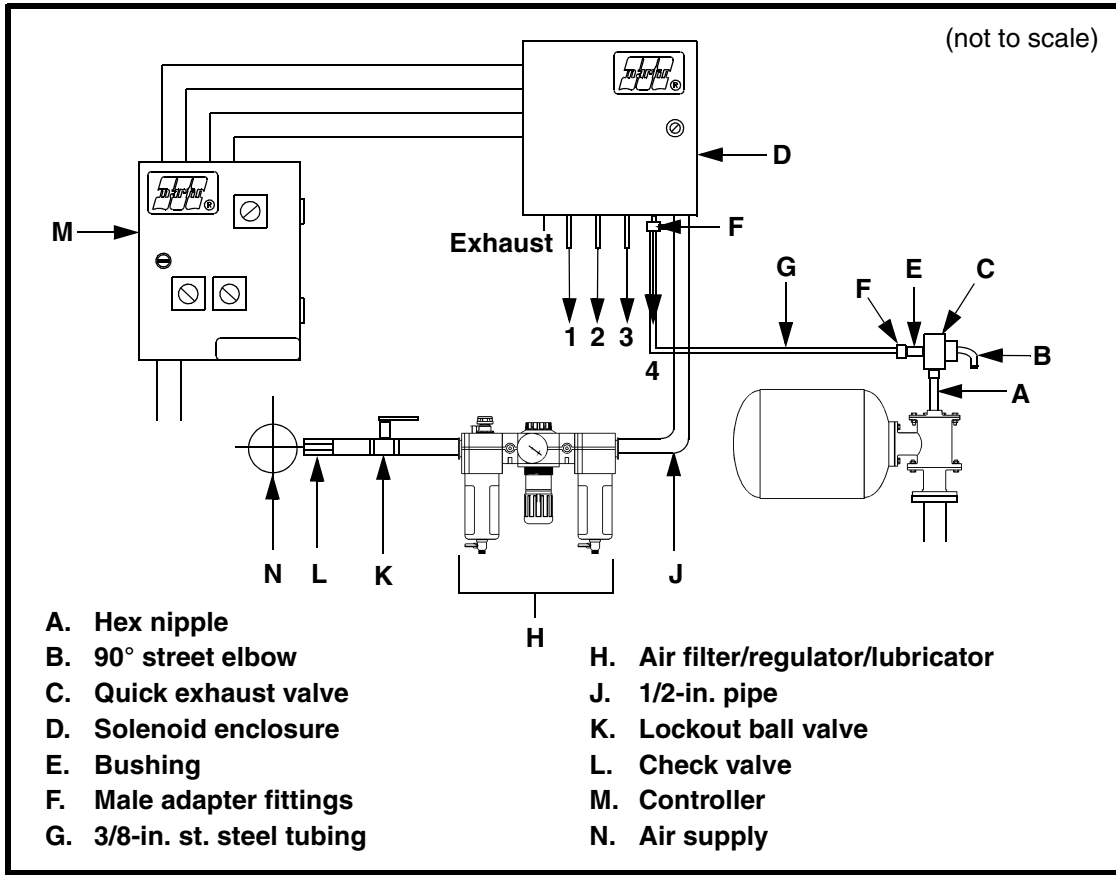

Figure 15. Solenoid Enclosure Piping
1. Refer to Figure 15 and follow steps 1 through 4 under “Installing manual valves and electrical solenoid valves.”
2. Choose location for solenoid enclosure (D) and mount with bulkhead fittings pointing down.
- a. Install bushing (E) on quick exhaust valve (C). Install a male adapter fitting (F) on bushing and on solenoid enclosure (D).
- b. Connect the two male adapter fittings with 3/8-in. stainless steel tubing (G).